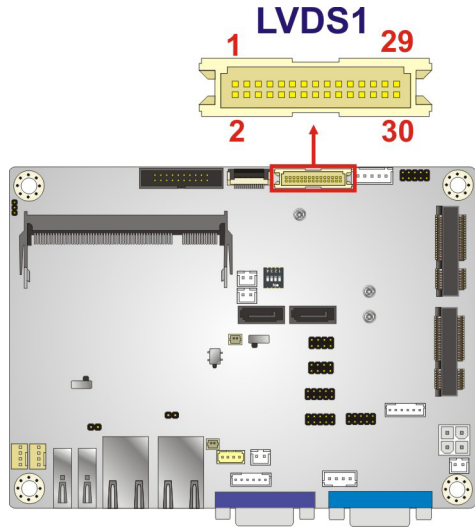

Figure 3-13: LVDS Connector Location
- CN Location: See **Figure 3-13**